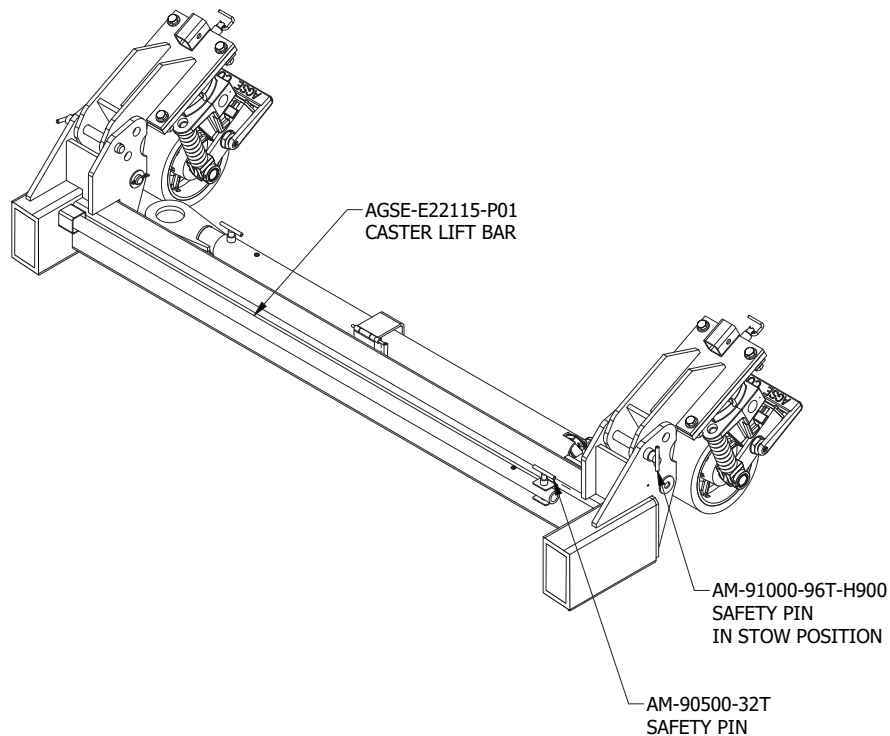

Figure 4.2-1
- 1). Retrieve the AGSE-E22115-P01 caster lift bar by removing the AM-90500-32T safety pin and its retainer pin securing the caster lift bar to the base (Figure 4.2-1).
- 1). Remove the AGSE-E22115-P01 caster lift bar by removing the AM-90500-32T safety pin and its retainer pin securing the caster lift bar to the base (Figure 4.2-1).